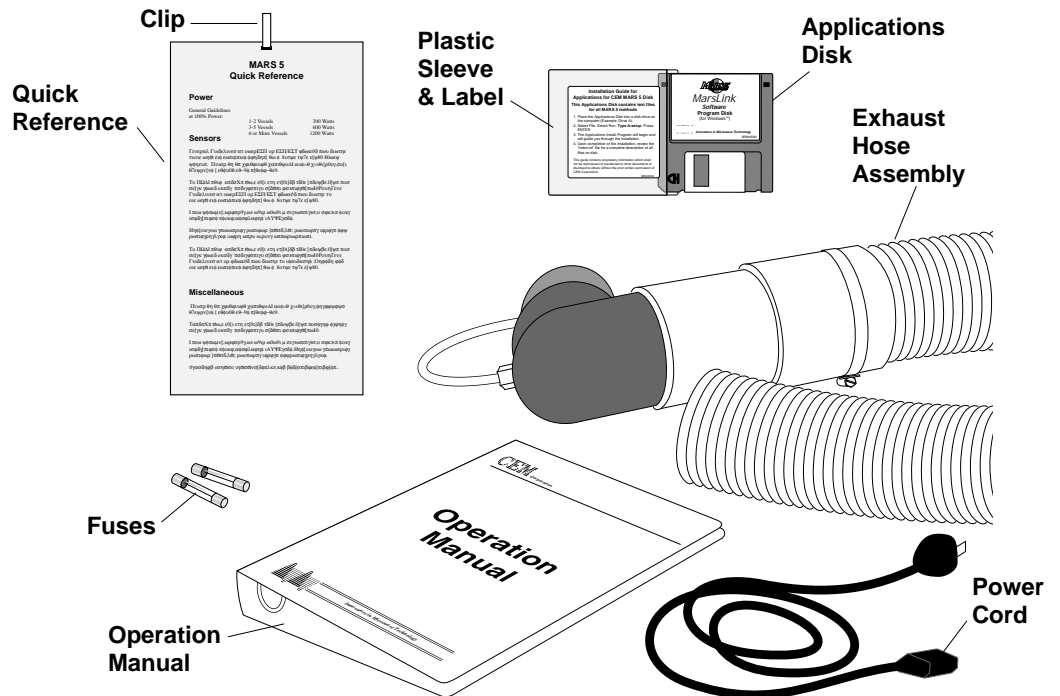

Figure 1. Accessories
3. Verify that all accessories listed below (illustrated in figure 1) have been included:
- 15A Fuse (2)